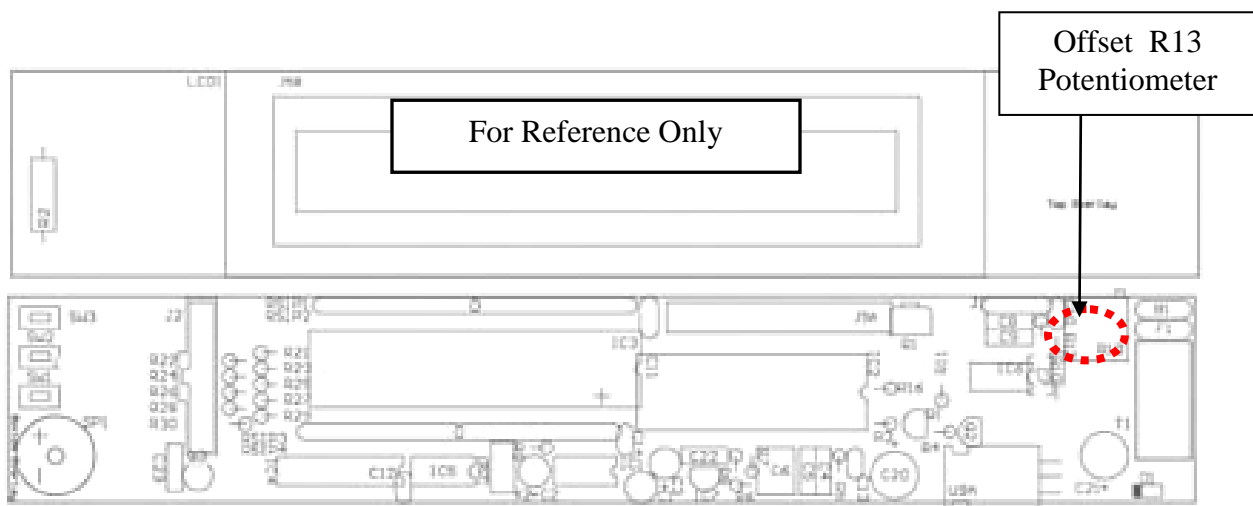

Figure 11: PC Board Layout
STEP 2: The number displayed on the right hand side is the system offset. This should be between 70-100 lbs positive. To adjust the offset, turn R13 (10k Potentiometer) on the display PC board to the desired value. This can be done with a standard flat head screwdriver. Refer to **PC BOARD LAYOUT** (Figure 11) for potentiometer’s location.